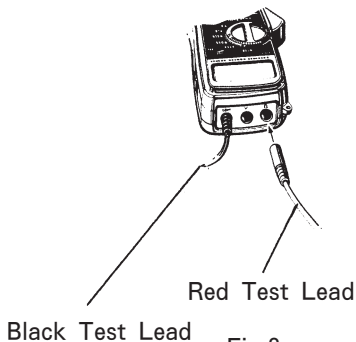

Fig.8
- (3) Insert the red plug of the test leads into the Ω Terminal and the black plug into the **COMMON** Terminal. (Fig.8)